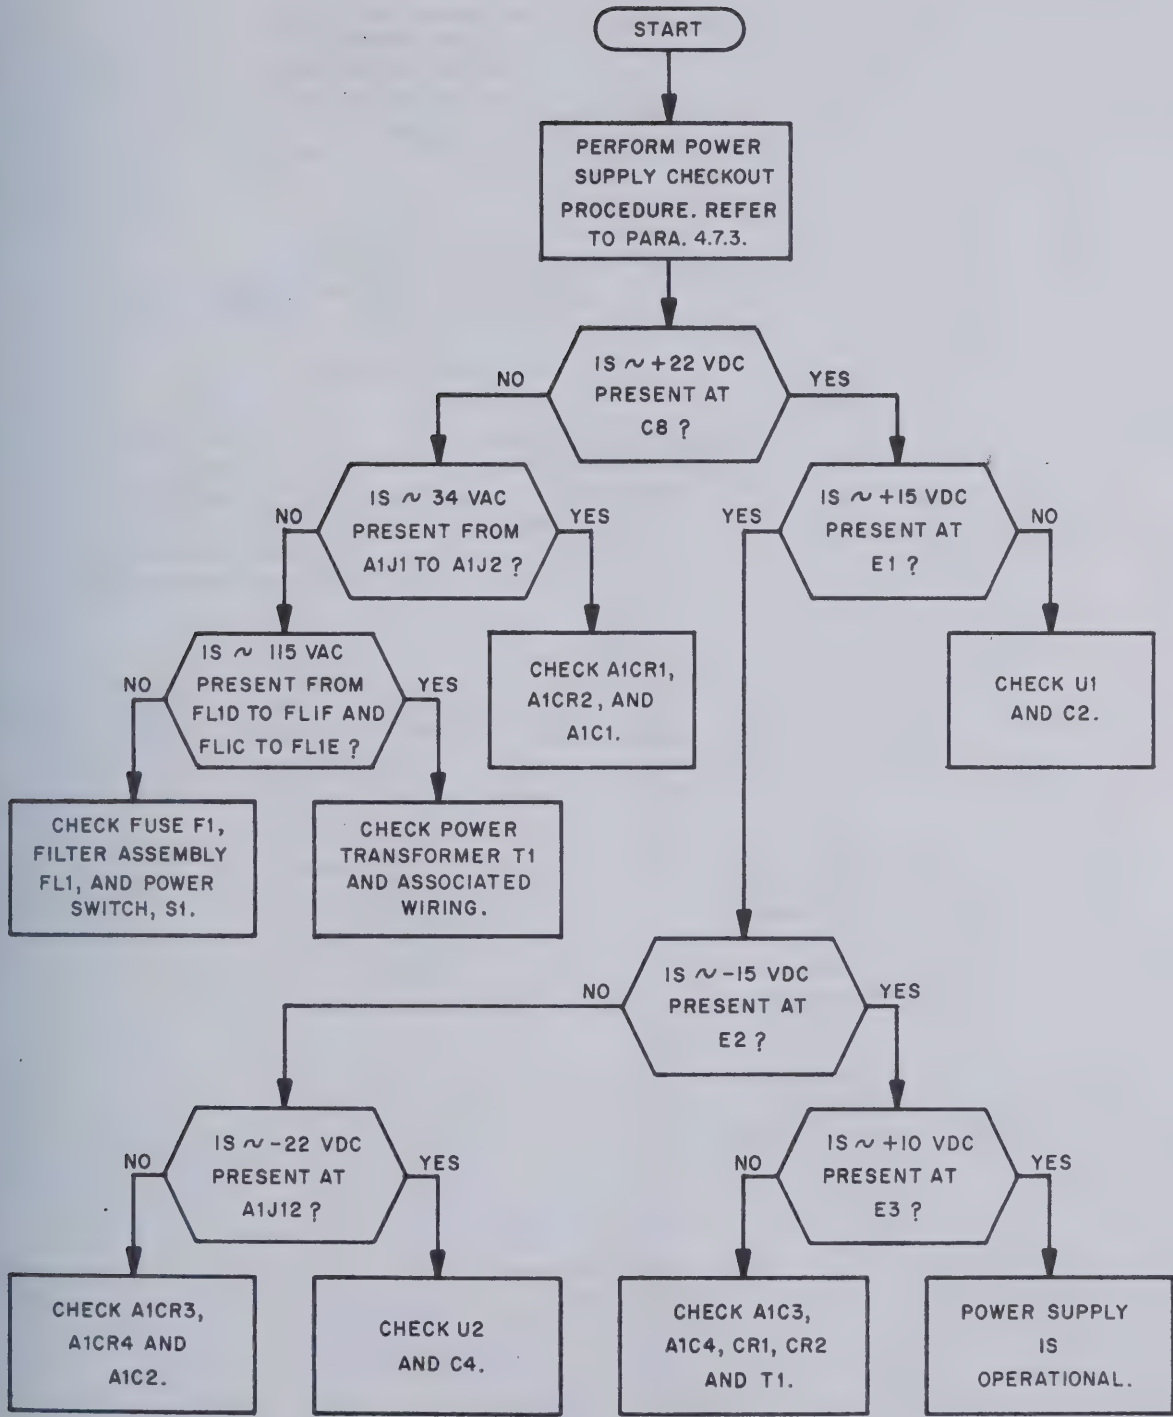

Figure 4-7. Power Supply Troubleshooting Tree
1. Figure 4-7. Power Supply Troubleshooting Tree